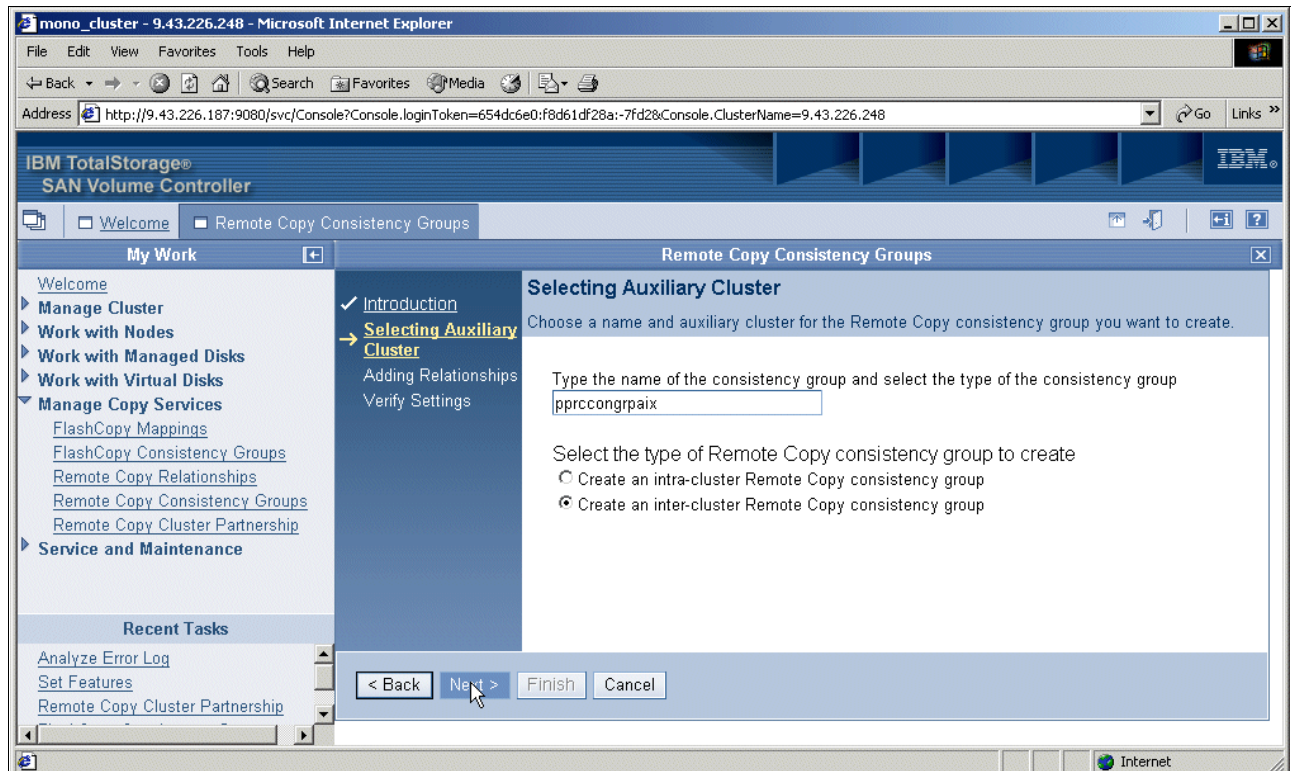

Figure 11-13 Selecting Auxiliary Cluster
5. On the next panel (Figure 11-13), determine whether the relationship is intracluster or intercluster. Click **Next**.